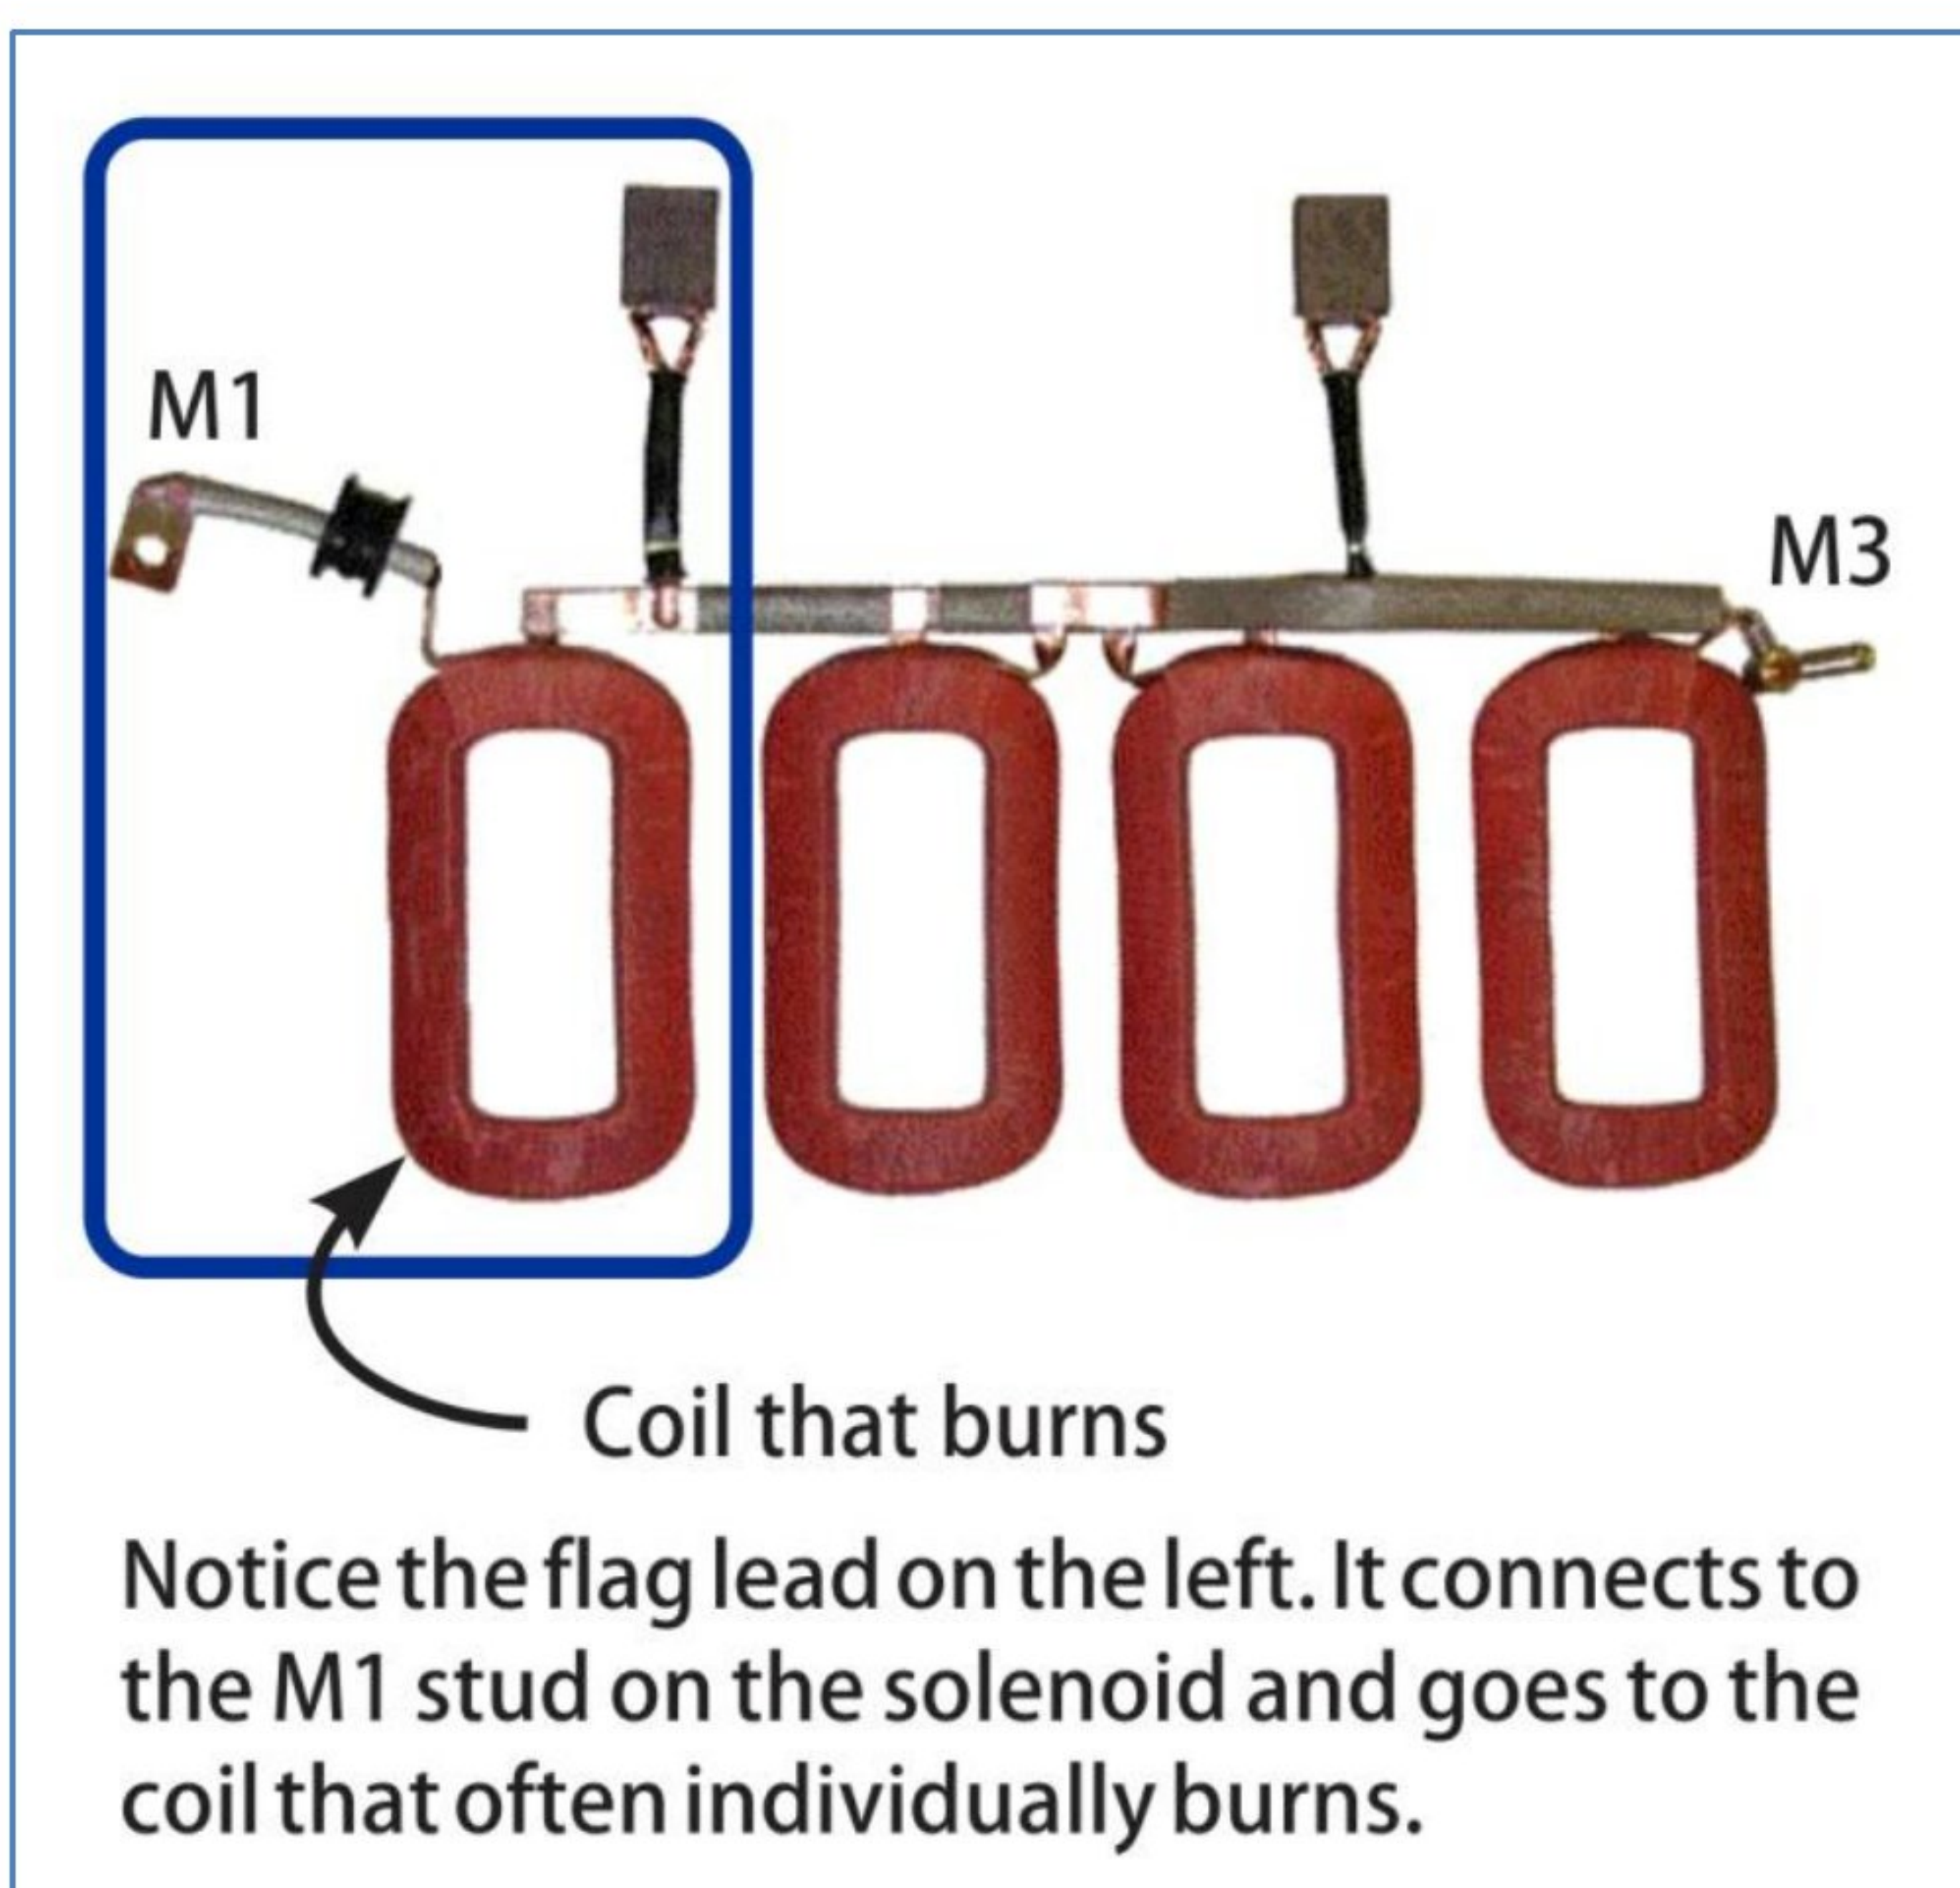
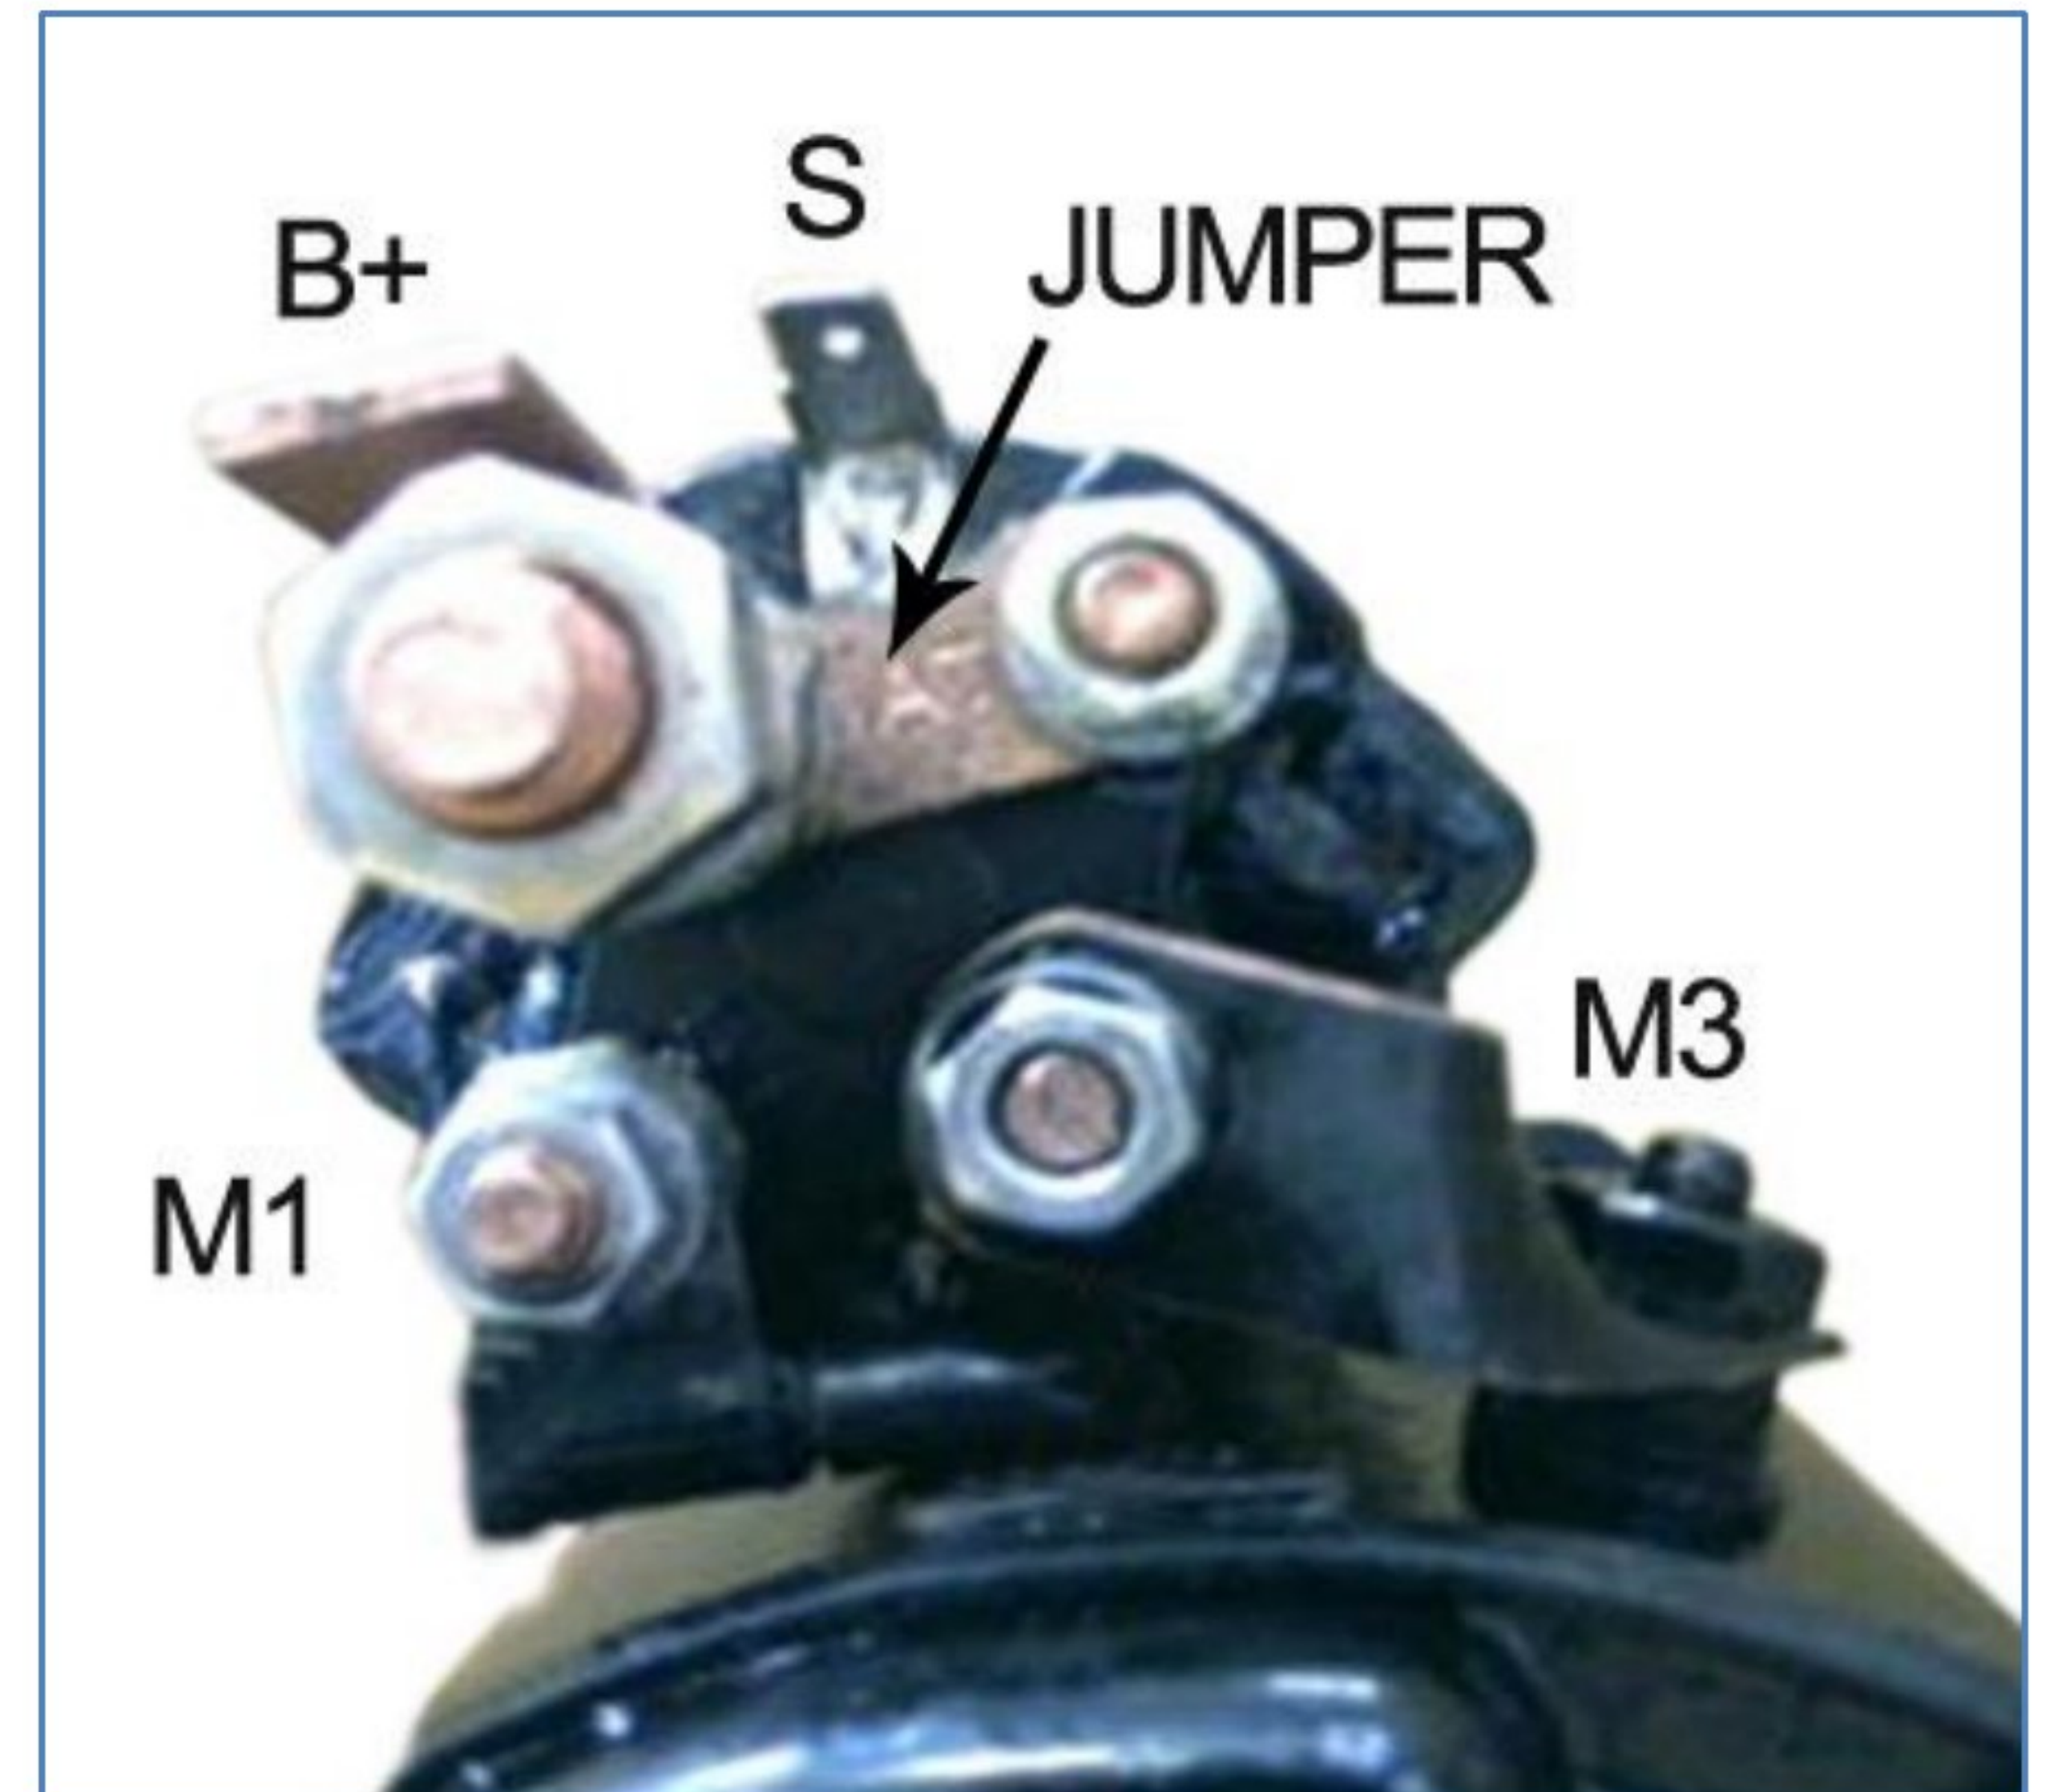
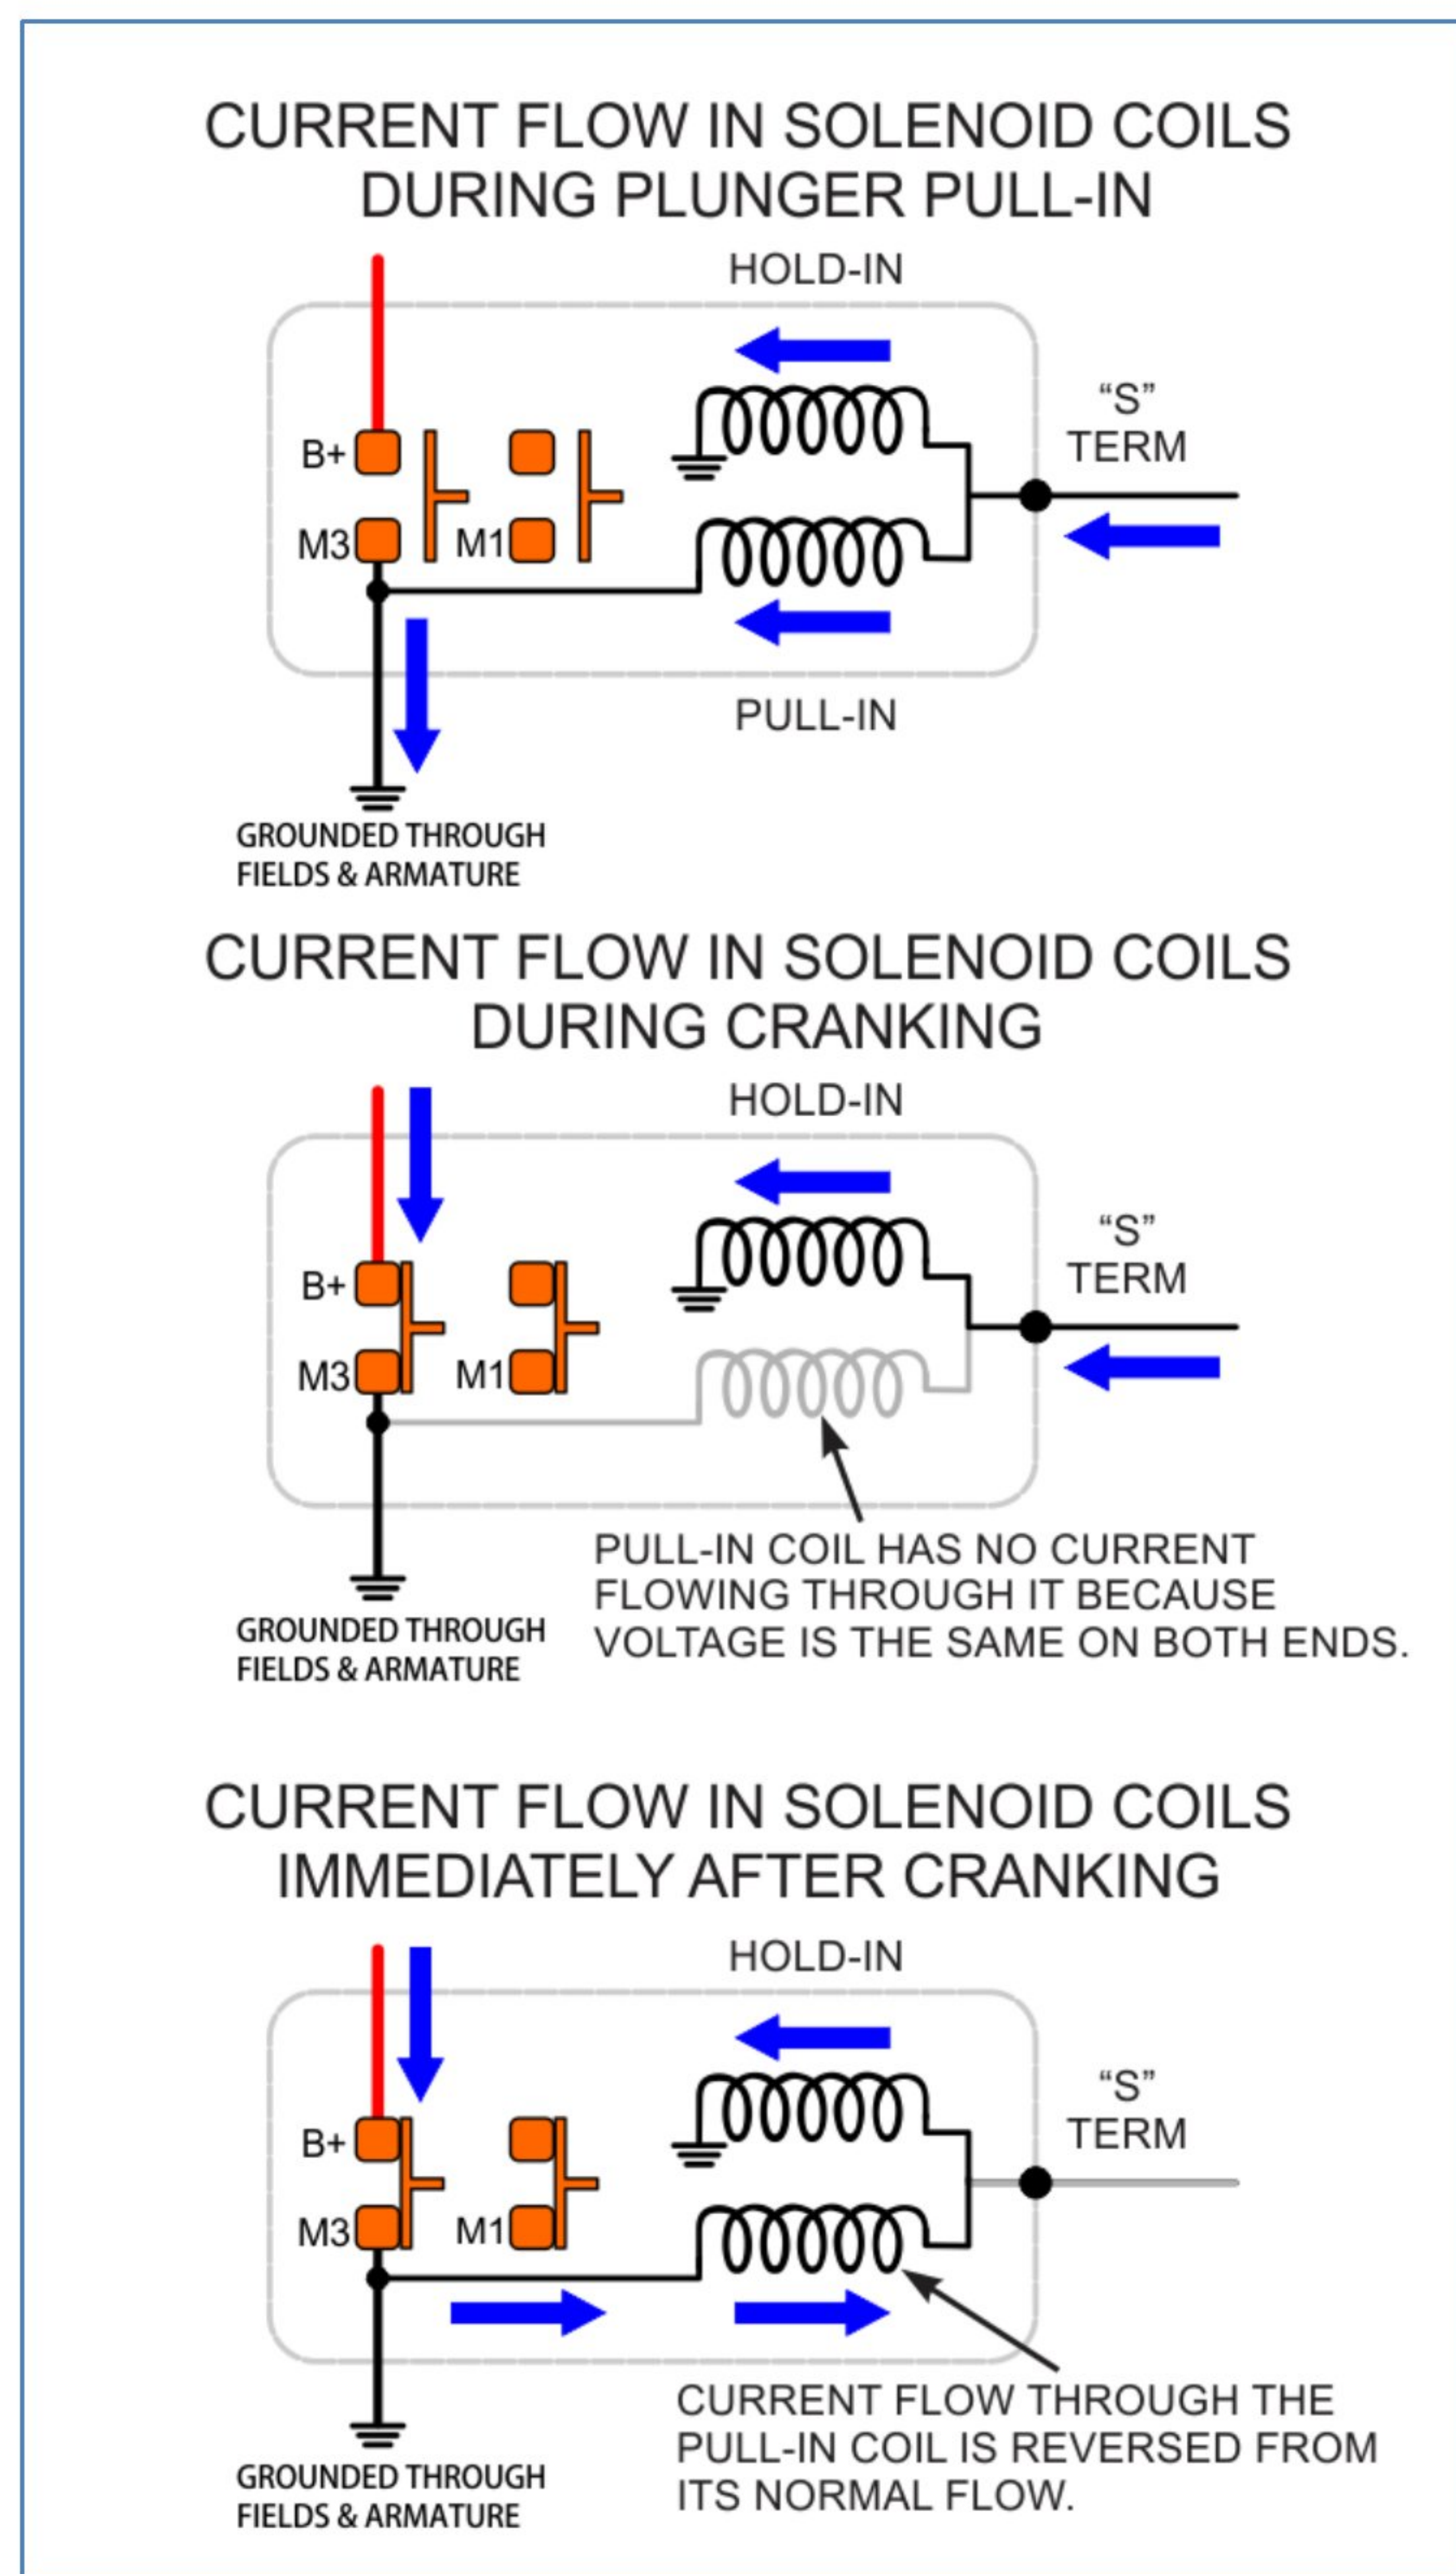

Figure 2—M50 Field Coils
Figure 3—Solenoid Terminals
Figure 10—Current Flow in Solenoid Coils
Every so often, as I rebuild one, I have to replace a burned field coil (see Figure 2), and it is always the same one of the four. Often, the solenoid coils are burned inside as well. Why?
Notice that all the field coils are in parallel to each other (4 shunt coils) except for the one which is connected to an independent set of contacts (*M1*). Refer again to *Figure 2* and *Figure 3*.
Installed on the machine, the power on *B+* of the starter is present all the time. Power is applied to the *S*-terminal via the start button/ignition switch, and current flows through both solenoid coils—a total of 92A on one I tested. The hold-in coil is connected directly to ground. It is active the whole time the *S*-circuit is powered up. The pull-in coil is grounded through the fields and the armature at the “motor” stud of the 3 coils (This is that second set I discussed earlier, *M3* in *Figure 3*). As soon as the *M3* contacts are closed, the pull-in coil will have 12V on both ends and no current will flow through it (see *Figure 10*). This prevents the pull-in coil from overheating and also lowers the current flowing through the ignition
Step 3: In that small fraction of a second when the farmer quits cranking the engine, but before the solenoid contacts have time to release, there will be a current path from the power still available at the M3 stud, up to the now-released S-terminal, then through the hold-in coil to ground (see Figure 10).